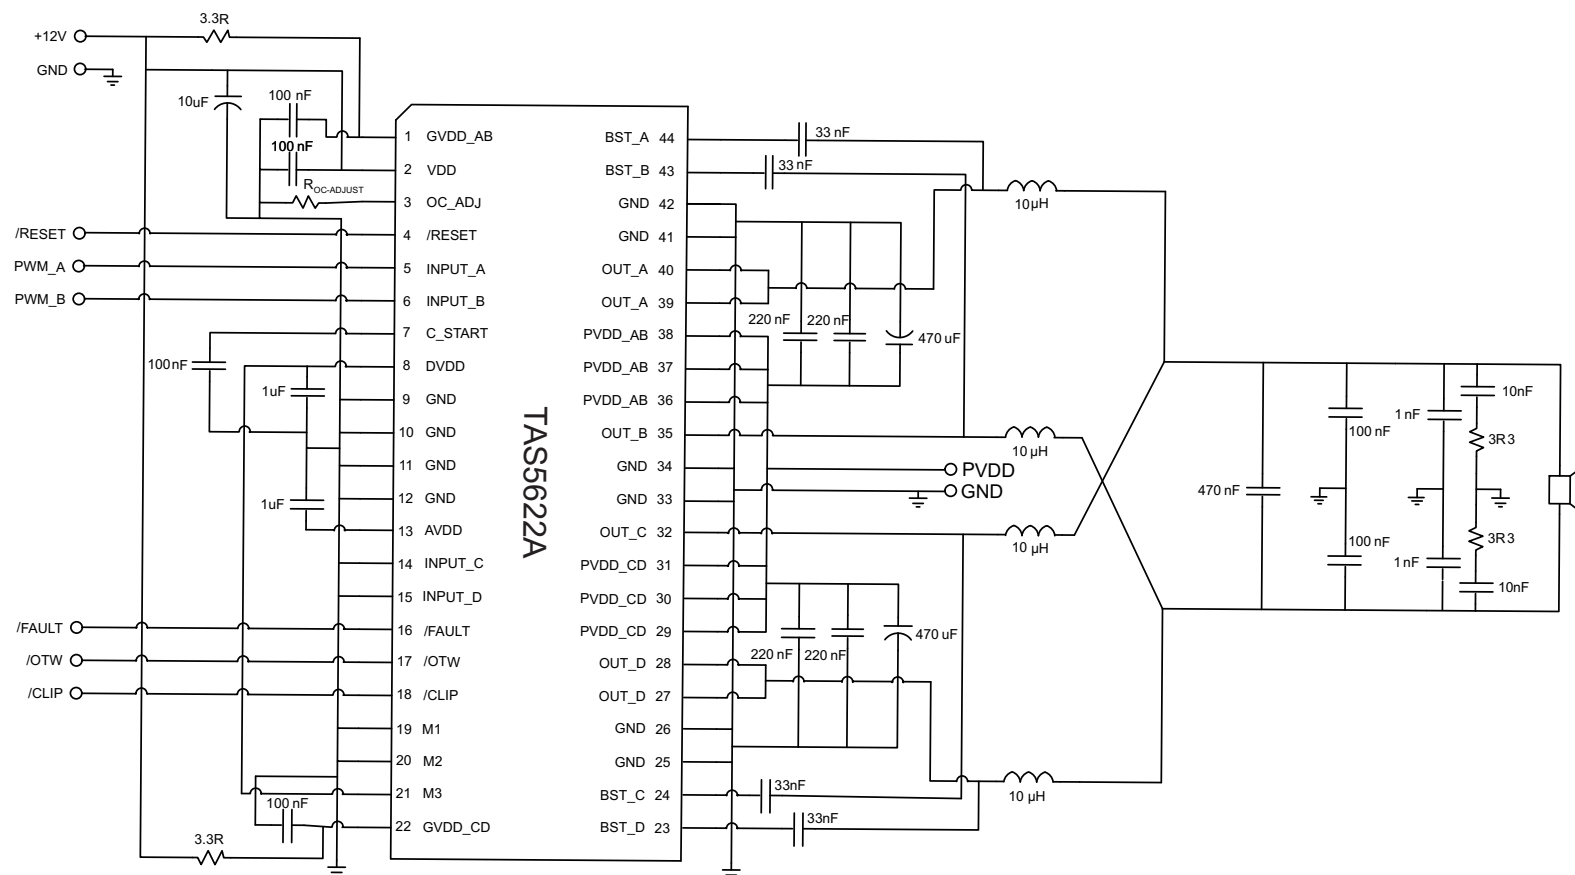

Figure 22. Typical Differential (2N) PBTl Application With AD Modulation Filter
See 图 22 for application schematic. In this application, one differential PWM input is used with AD modulation from the PWM modulator such as the TAS5558. AD modulation scheme is defined as PWM(+) is opposite polarity from PWM(-). The output PBTL configuration is often used to drive lower impedance load such as a subwoofer.
- Pins 27, 28, 32, 35, 39, 40 - Output pins from half-bridges A, B, C, and D. Connect appropriate bootstrap capacitors and differential LC filter as shown in 图 22.
- Pins 29, 30, 31, 36, 37, 38 - Power supply pins to half-bridges A, B, C, and D. A and B form a full-bridge and C and D form another full-bridge. A 470-μF bulk capacitor is recommended for each full-bridge power pins. Two 0.22-μF decoupling capacitors are placed on each full-bridge power pins. See 图 22 for details.